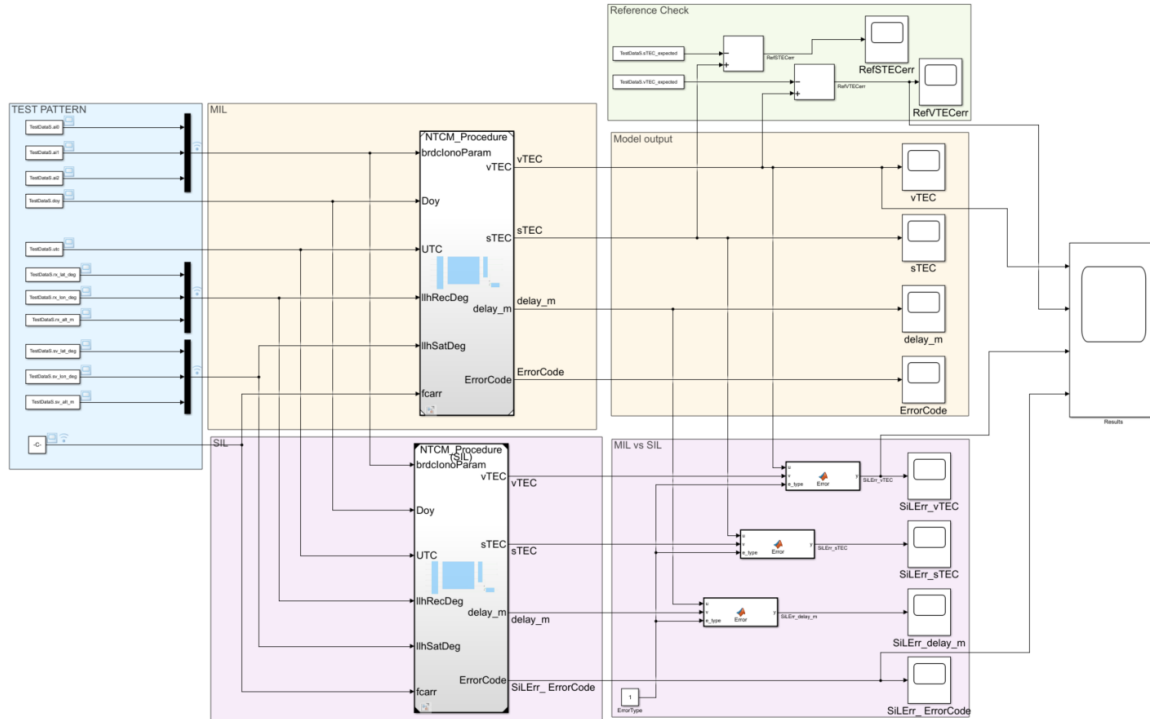

Figure 7: MiL vs SiL Test Harness
- Directly compare the output obtained by using the generated code with the ones generated by the reference *Galileo NTCM G* performance model (MiL system in Figure 7)